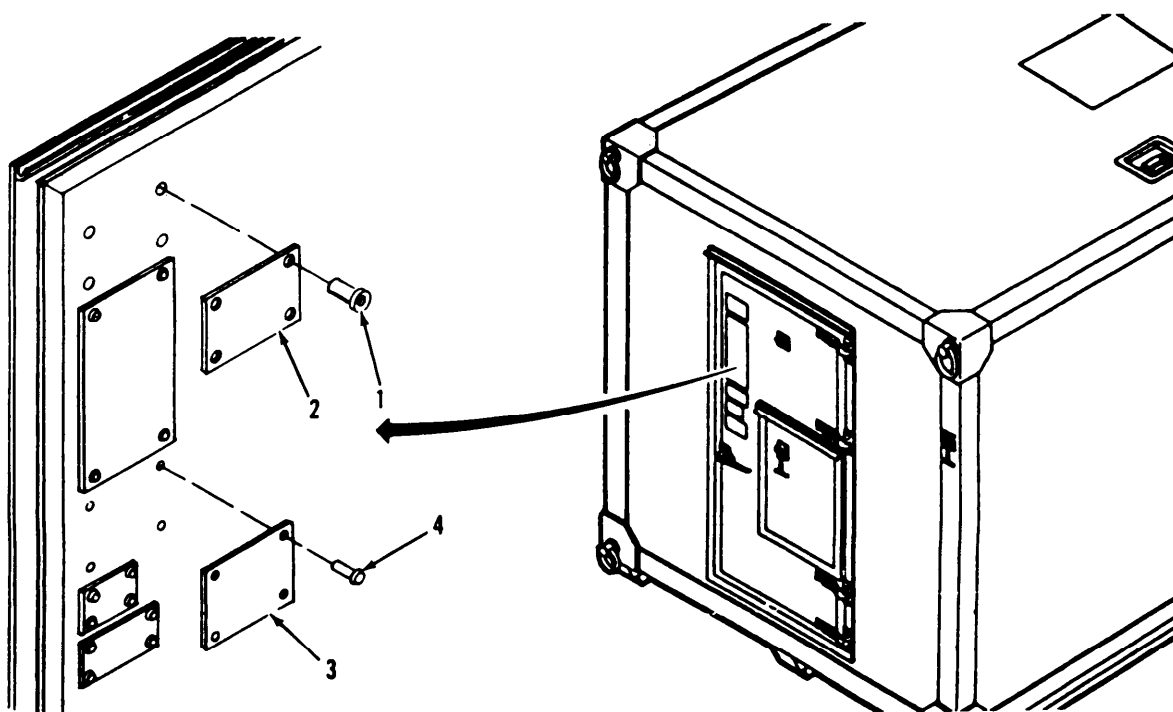

Figure 3-15. Data Plate Replacement.
a. Inspect. (Figure 3-15)
- (1) Inspect shelter for missing data plates.
- (2) Inspect data plates for legibility.
- (3) Check for missing rivets.